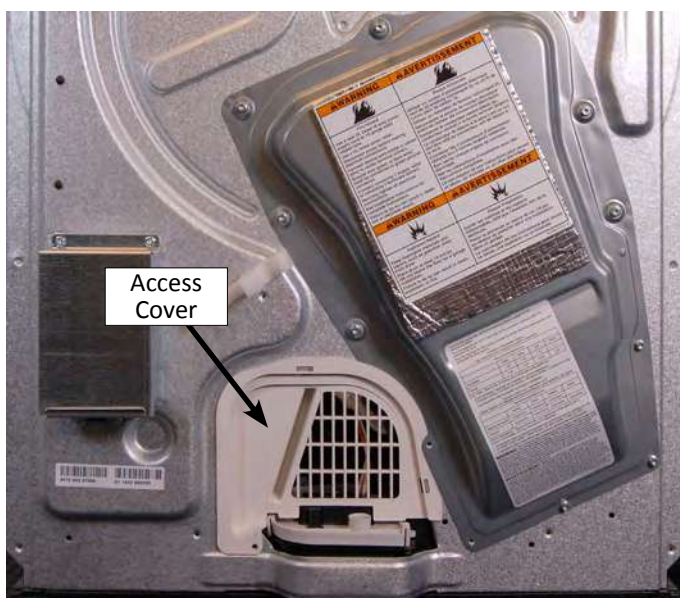

Figure 5
13. Remove the plastic access cover and set aside (see Figure 5).